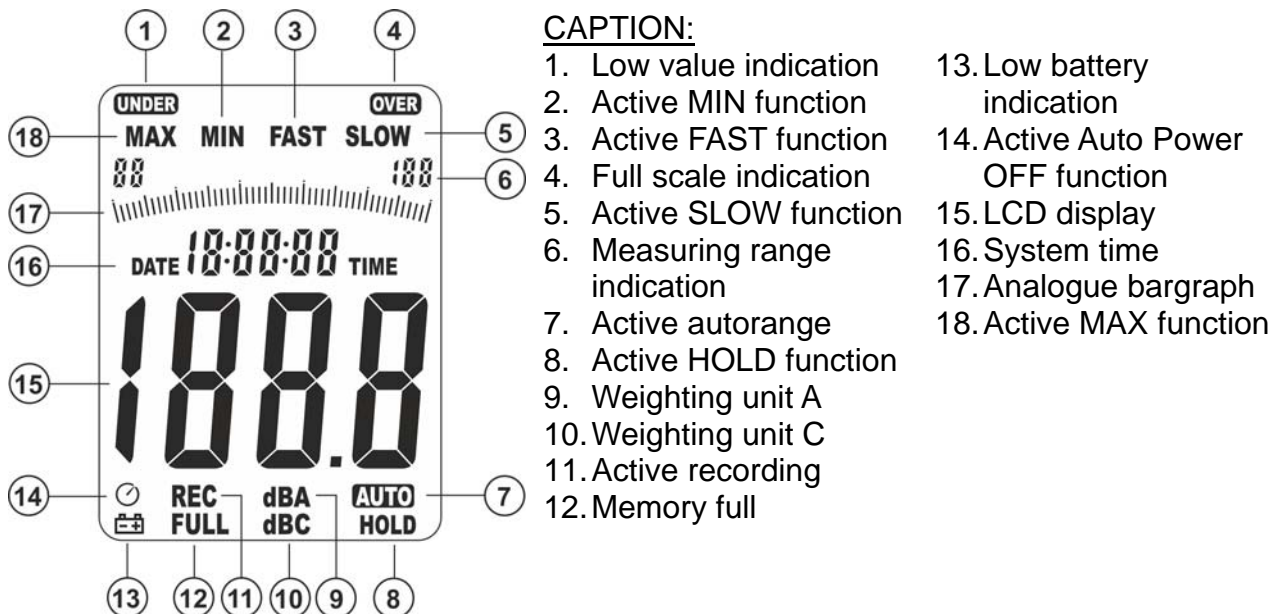

Fig. 2: Display description
Press key **LEV** to select measuring range (see Fig. 2 – part 6). The following ranges are available: **30 ÷ 80dB** (low), **50 ÷ 100dB** (medium), **80 ÷ 130dB** (high), **30 ÷ 130dB** (Autorange). Message “AUTO” (see Fig. 2 – part 7) appears when “Autorange” is selected. Message “UNDER” (see Fig. 2 – part 1) appears when the measured value is lower than the minimum value of the selected range. Message “OVER” (see Fig. 2 – part 4) appears when the measured value is higher than the maximum value of the selected range. Key **LEV** is used also when setting system date/time (see § 4.3.9).
14. Looking at the indicated system time (see Fig. 2 – part 16), press key **REC** to activate recording in the desired instant. Message “REC” appears at the bottom of the display (see Fig. 8).